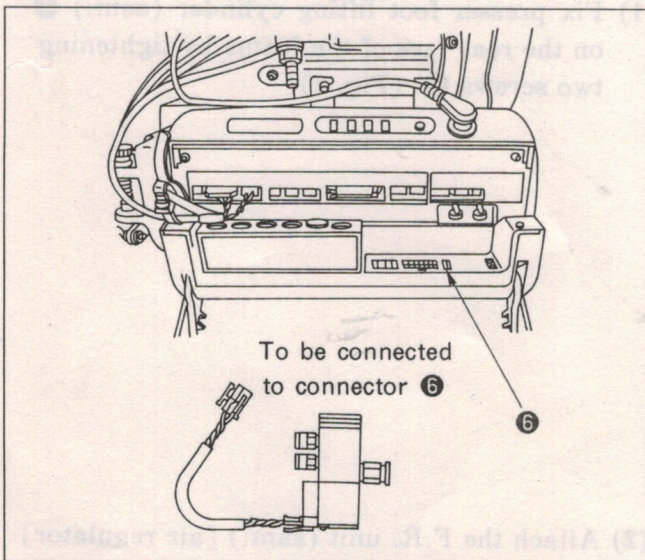

Fig. 4
- (4) Open the cover of the SC-1, and connect the solenoid valve for the presser foot lifter to connector ⑥. (Fig. 4)